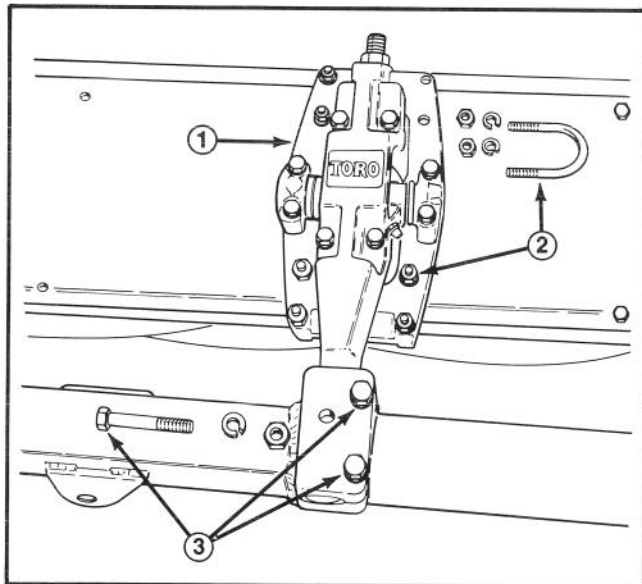

Figure 6
Mount Floatation Kit Assemblies (Fig. 6) to all five cutting units using supplied "U" bolts. Male end of floatation assembly extends forward. Tighten U-bolts evenly.
- A. Remove 3 (metric) bolts from each of the five lift arms (Fig. 6).
- C. Roll the appropriate cutting unit forward and match the male end or pivot arm with the hole in the lift arm. (**Note:** It may be necessary to spread slotted block on lift arm slightly to slide pivot arm fully into hole.) Reinstall three lift arm bolts but do not tighten (Fig. 6).
- D. To assure good quality of cut and maximum overlap of cutting units move the #2, #3, #4 and #5 cutting units toward the center line of the machine by rotating the pivot arm. As each cutting unit is moved toward the center line of the machine tighten the floatation kit and lift arm fasteners to secure its position (Fig. 6).